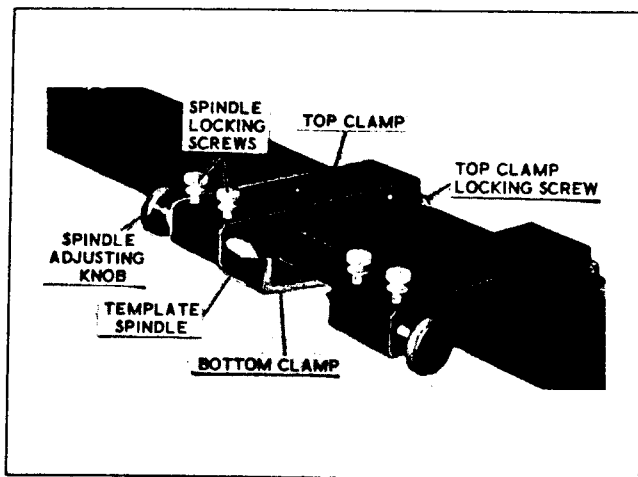

Figure 1-9. Round Template Holder, Model 3057-03. (Used with Mark IIA thru VI Series)
f. A Round Template Holder (fig. 1-9) is available as OPTIONAL equipment for use with the 43570 and 43585 Template Rail Assemblies. The holder consists of two clamp assemblies as shown in figure 1-9. Each clamp assembly is secured to the bottom of the template rail by a bottom clamp and thumb-screw, and to the rear of the template rail by two top clamp locking screws.